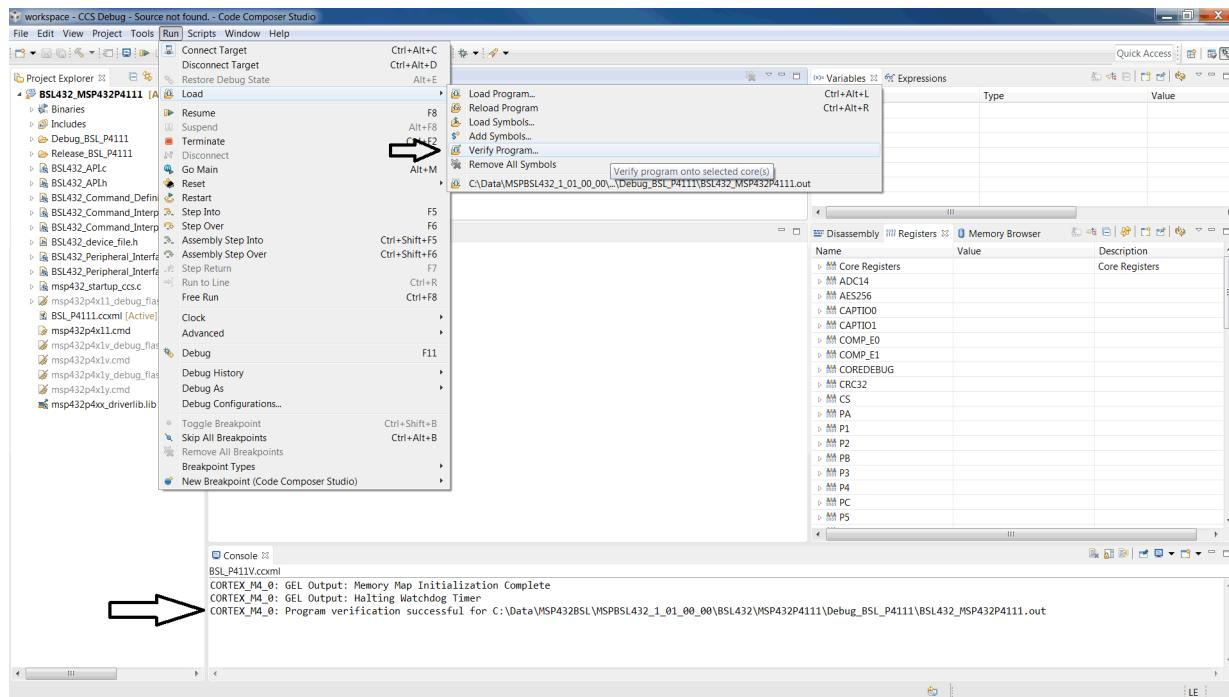

Figure 18. Verify Program
9. Optionally, to perform verification, click *Run* → *Load* → *Verify Program*. Select the same .out file as chosen in step 8. **Figure 18** shows the console window in which the verification status is displayed.